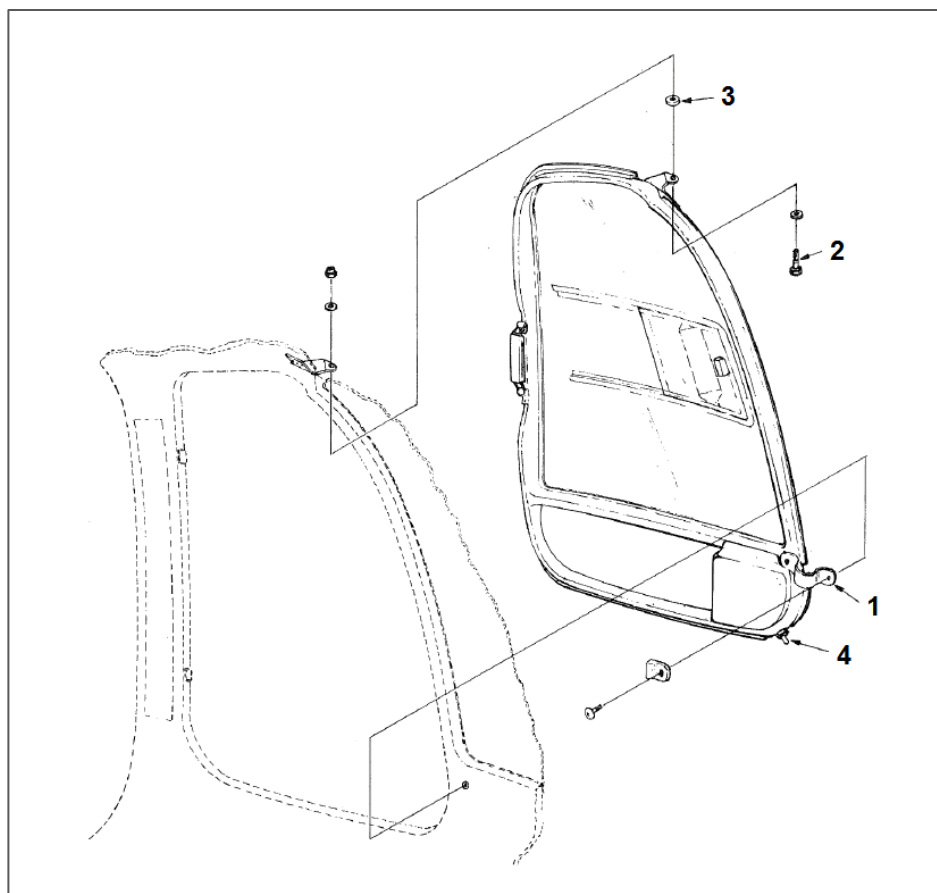

Figure 5. 280 / 280C Door Removal and Installation
6.3 280/280C Door Removal (Figure 5)
NOTE: The cabin door depicted in Figure 5 utilizes the retaining strap. Configurations may vary.
- 6.4 280/280C Door Installation (Figure 5)
- 6.4.2 Install the spacer (3) and mount the hardware in the upper hinge. See Figure 5 for proper hardware installation.